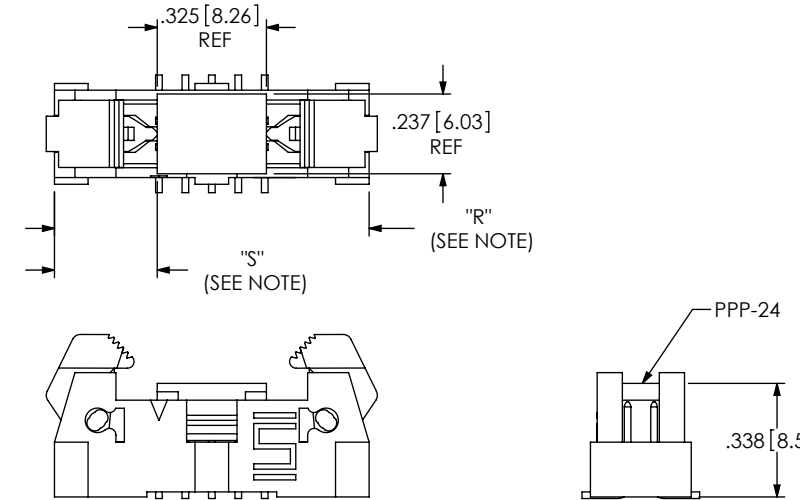

FIG 5
-P: PICK & PLACE PAD (SEE FIG 5, SHT 2) (FOR -SM ONLY, USE PPP-24) (USE PPP-55 WITH -SM-TR OPTION)